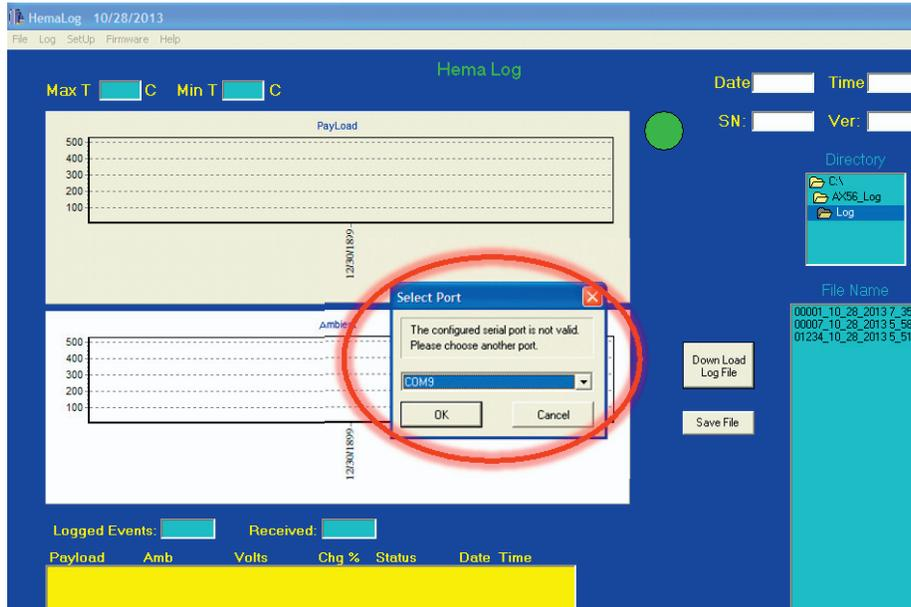

Figure 57. Select Serial Port Dialog Box
- If **Select Port** dialog box appears, select another com port from the drop down list (Figure 57).